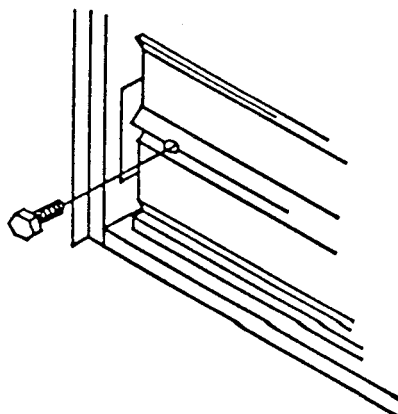
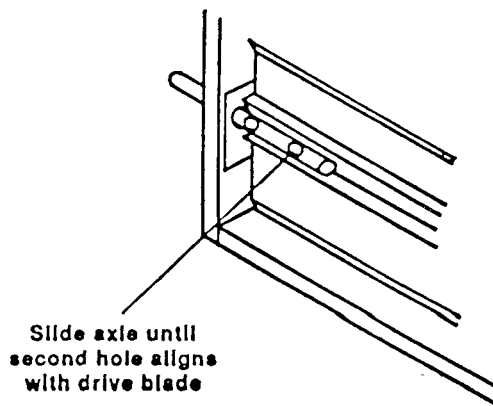

Figure 1
Figure 2
- 3) Extend the drive axle on both dampers. Remove the hex head bolt which secures the axle to the blade. (Fig. 1) Slide the axle out until the second hole in the axle is aligned with the hole in the drive blade. (Fig. 2) Replace the hex head bolt and tighten with a wrench. This extends the axle far enough so it protrudes beyond the mixing box cabinet.